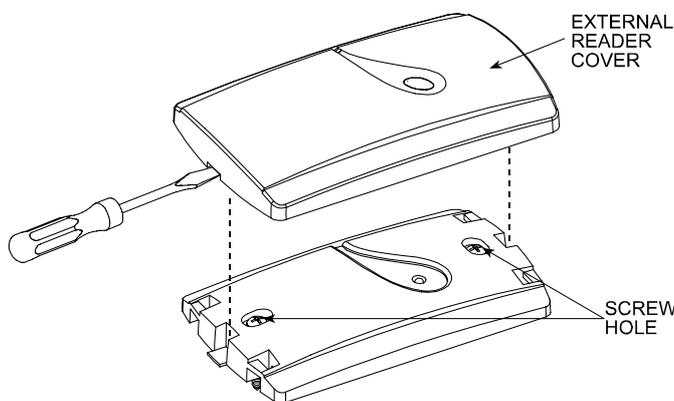

Figure 2. RDR-4, RDR-4B Mounting
- D. Replace the reader's cover, ensuring that the cover is aligned with the reader. This enables the LED to be visible, (see Figures 2 and 3).